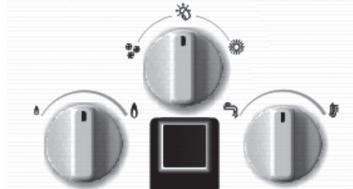

Fig. 9
- **Flame knob:** Which control the gas flow rate, Fig. 9.